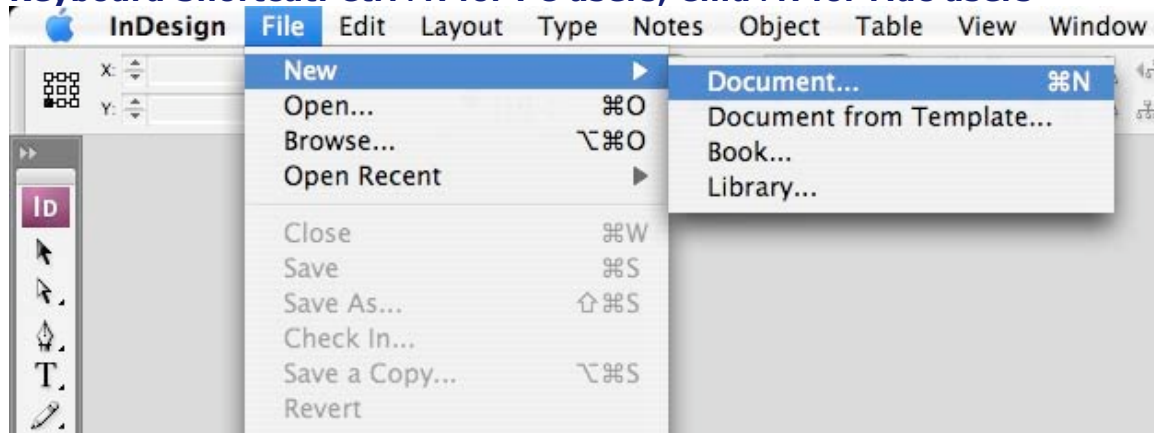

Figure 1
- Choose **File > New > Document...** (See Figure 1)